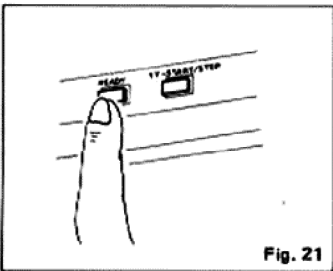

Fig. 21
2. Press the READY button (—) (Fig. 21)
8. Press the "READY" button again to switch the power off (—). (Fig. 21)